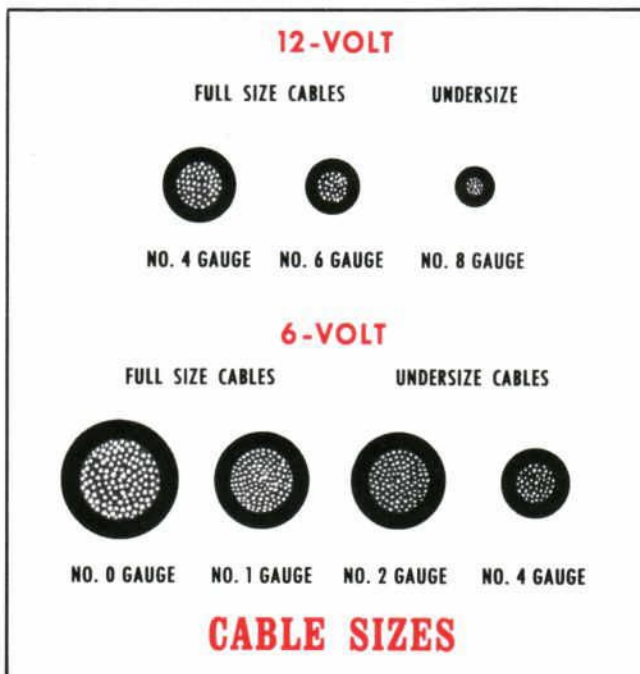

Figure 5—Cable Sizes
2. The size of the cable used should be noted and compared to manufacturer's recommendations (Fig. 5).